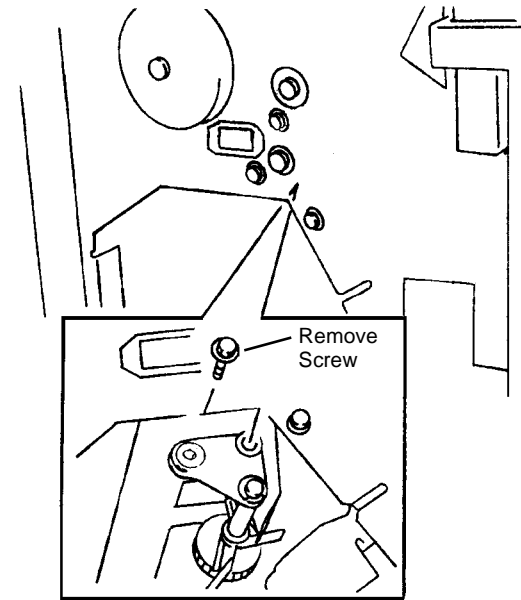

Figure 2 Removing Screw on Paddle Gear Shaft
4. Remove Screw on Paddle Gear Shaft (Figure 2).